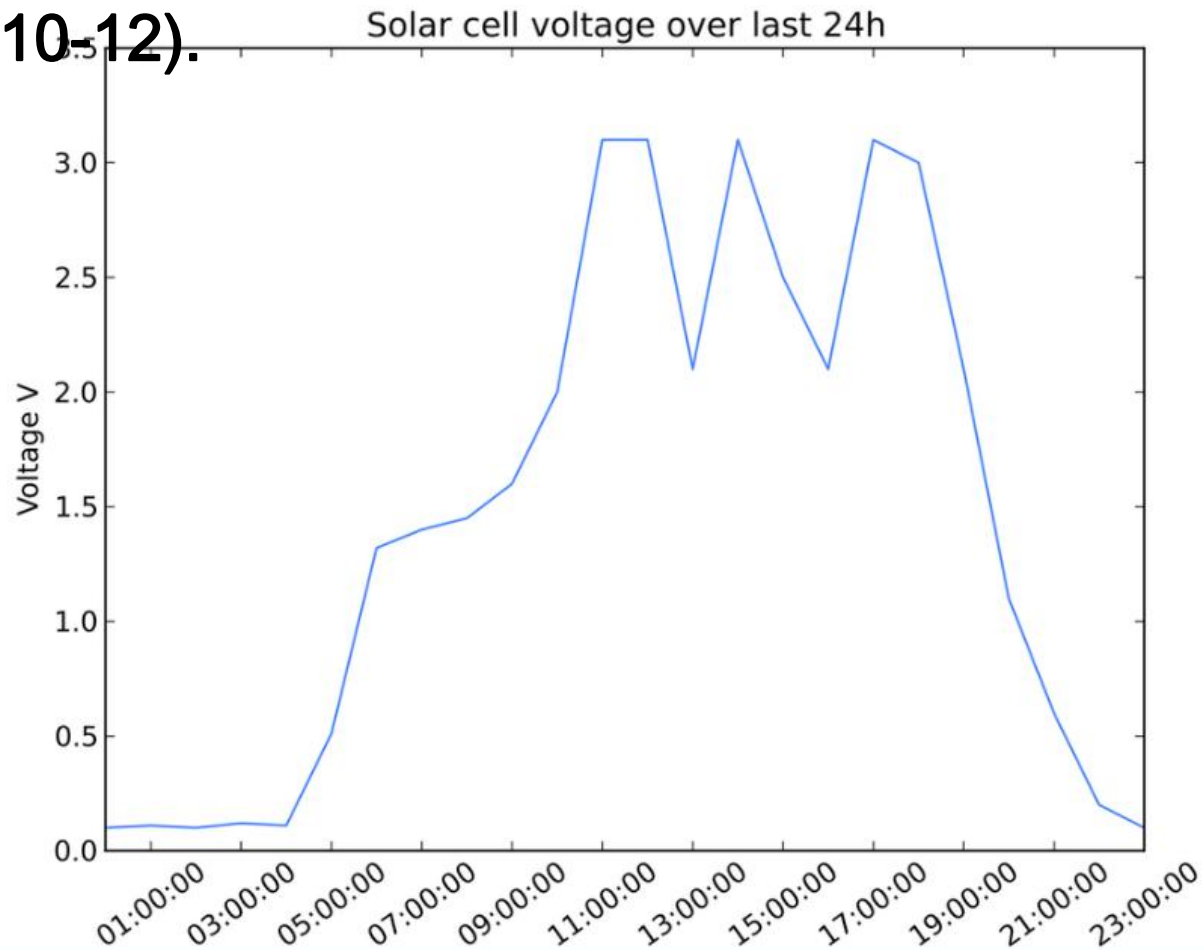

Figure 10-12. Solar cell power graph
- Turn your Raspberry Pi into a web server and monitor the voltage of your solar cells remotely (Figure 10-12).